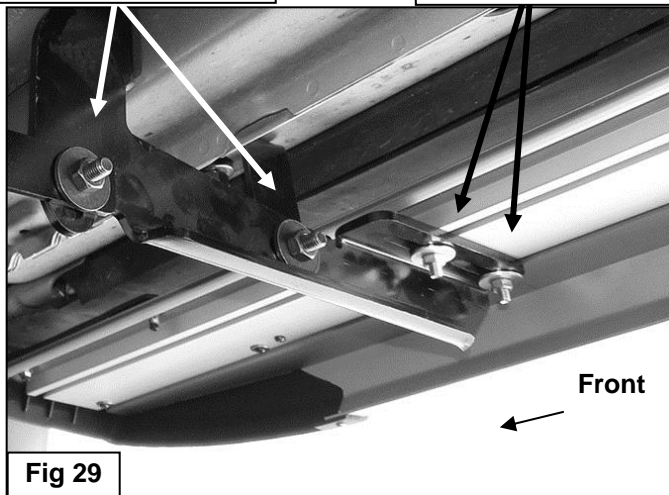

Fig 29
20. Carefully un-wrap the Running Boards. Insert (6) 6mm T-Bolts into the open ends of the channels, (3 T-Bolts per channel), in the bottom of the Running Board, **(Figure 28)**. Hold the Running Board up in the approximate position and slide the T-Bolts down the channels to line up with the (3) Brackets. Tilt the Running Board up at a slight angle to clear the slots in the Brackets. Secure the Running Board to the Brackets with (6) 6mm Flat Washers, (6) 6mm Lock Washers and (6) 6mm Hex Nuts, **(Figure 29)**. **NOTE:** The Running Board is designed to fit close to the vehicle. It may be necessary to loosen the Mounting Brackets and tilt the Brackets downward to insert the Running Board. Do not fully tighten hardware at this time.